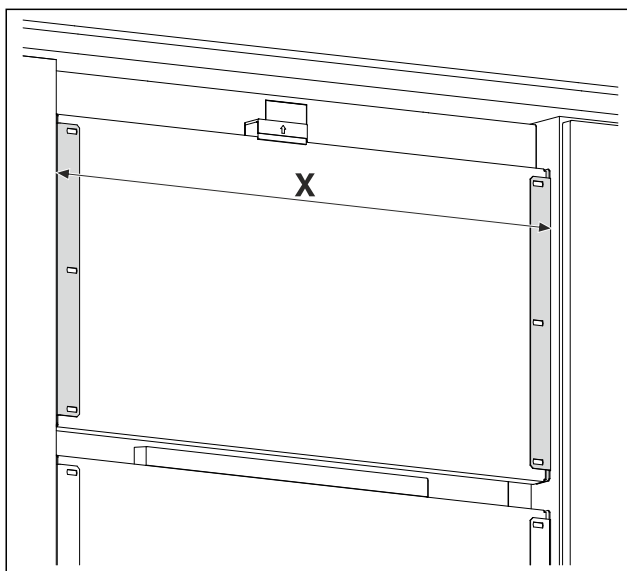

Fig. 17 Example illustration
- Measure the distance Fig. 17 (X) between the outer edges of the retaining brackets.